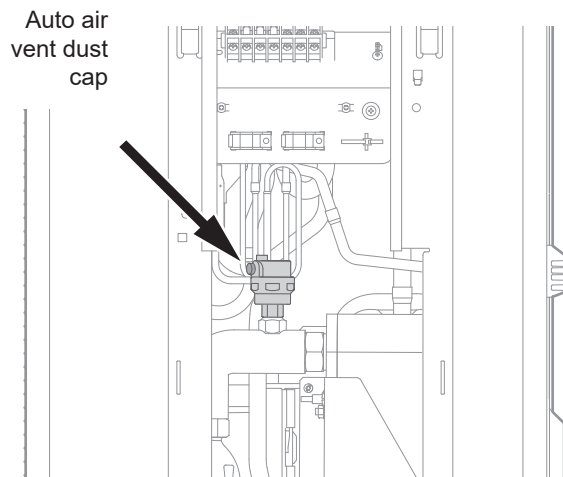

Figure 42. Auto Air Vent Dust Cap
2. Open automatic air vent dust cap. Refer to *Figure 42*.